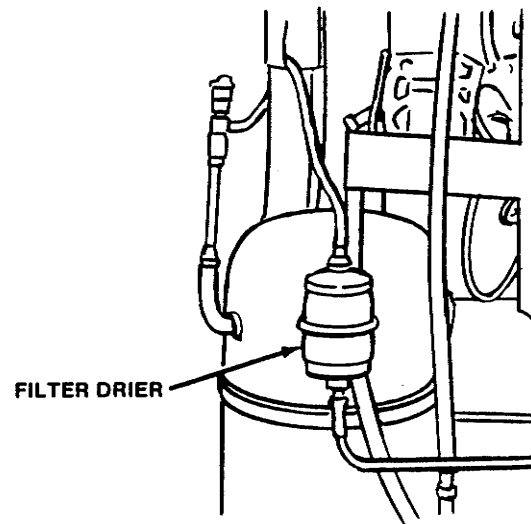

Figure 43. Filter Drier
6. Break the vacuum to 0 P.S.I.G. with R-502 and, with an open port, replace filter drier using the appropriate brazing material (Fig. 43).
6. Break the vacuum (0 P.S.I.G.) with R-502 and, with an open port, replace filter drier using the appropriate brazing material (Fig. 43).